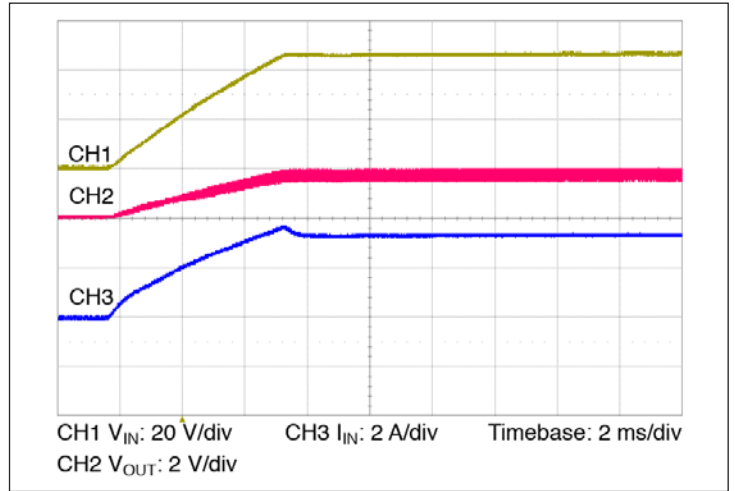

Figure 10 — Start up from application of V_{IN} ; VC pre-applied $C_{OUT} = 27000 \mu F$
- **Normal operation (VC applied prior to V_{IN}):** In this case the controller is active prior to ramping the input. When the input voltage is applied, the VTM module output voltage will track the input (See Figure 10). The inrush current is determined by the input voltage rate of rise and output capacitance. If the VC voltage is removed prior to the input reaching 26 V, the VTM may shut down.